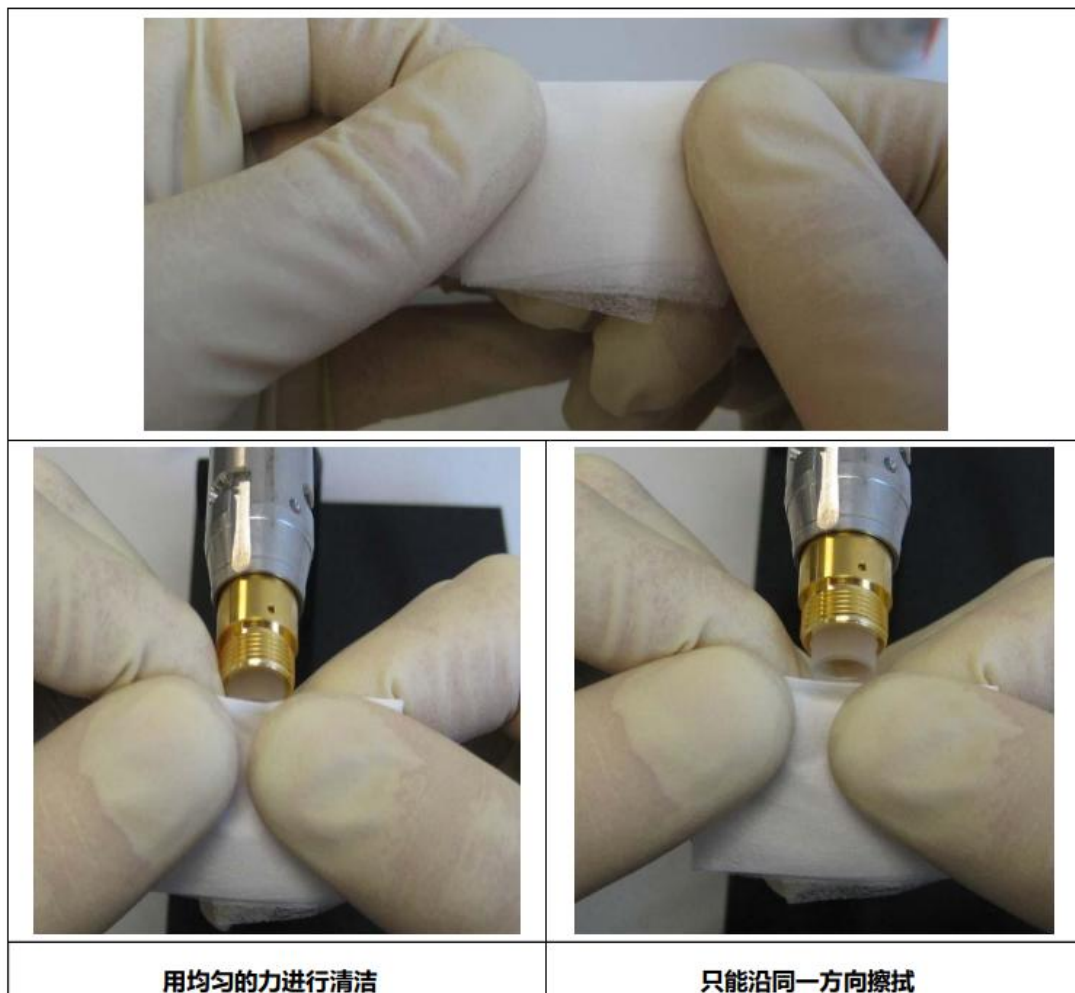

Figure 11-5 Fiber fiber surface cleaning
9. Bring powder-free latex gloves, then remove a piece of optical cleaning paper and fold it into a rectangular shape of about 2.5x4cm (as shown in [Figure 11-5]). Then drop a few drops of isopropanol on the neatly folded edge;